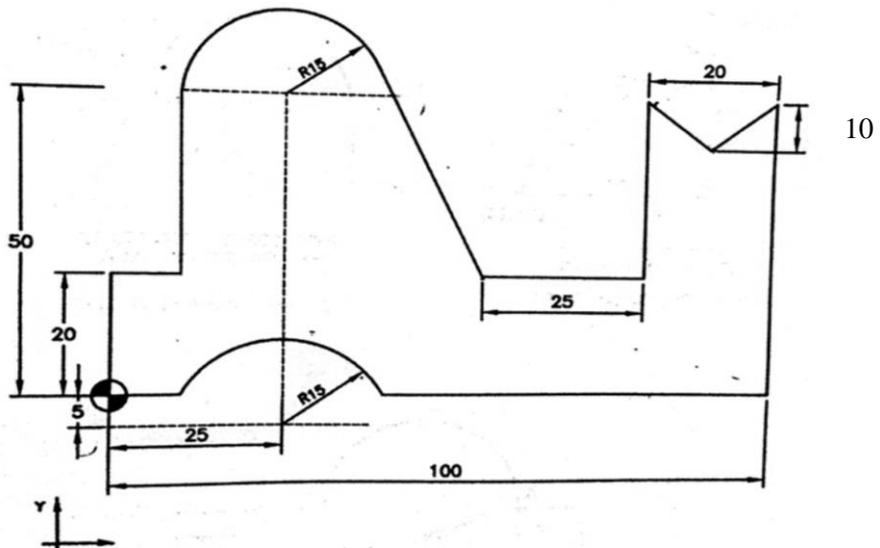

Figure-4 (thickness = 6 mm)
- (b) Write a part program for a machining centre using ISO format for the component shown in figure- 4 ૦૪